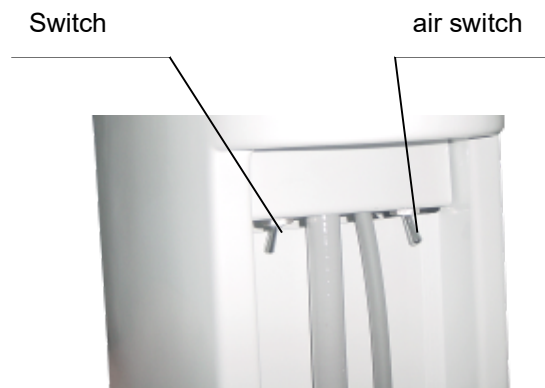

Fig.10 Water purification system
a) Close air check valve, see (Fig.10),